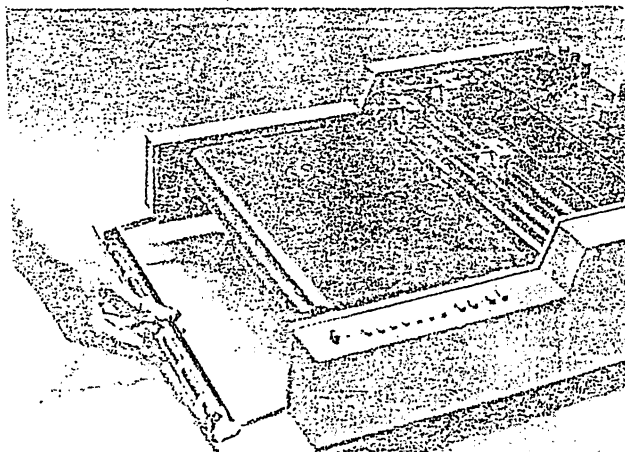

Fig. 6
a) Lay down the chart guide as shown in Fig. 6.